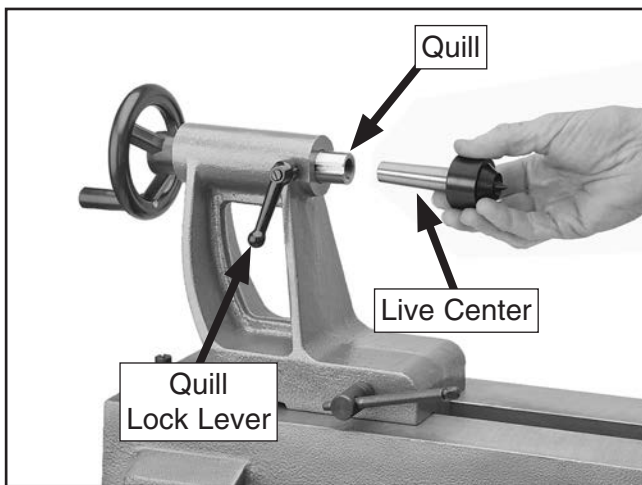

Figure 24. Installing the live center into the tailstock.
2. Loosen the quill lock lever, then rotate the quill handwheel clockwise until the quill extends out from the tailstock about 1", as shown in **Figure 24**.